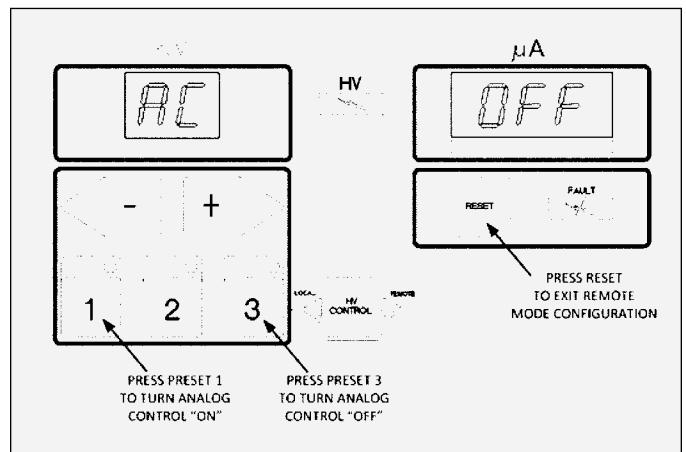

Figure 33: Remote Mode Configuration Menu
3. Continue holding the (+) and (-) keys during the boot sequence until the screen displays “AC” on the KV display on the left side of the front panel as shown in Figure 33.